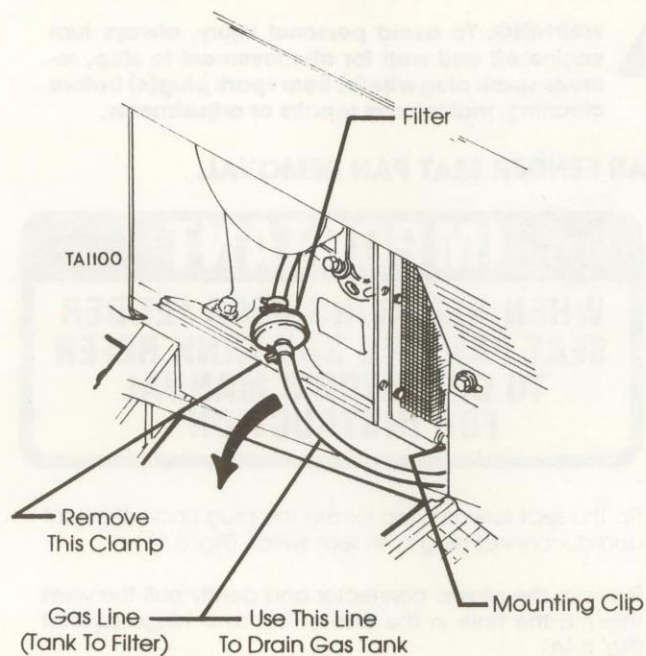

FIG. 5.2A
3. Remove clamp holding gas line (from gas tank) to filter at the engine (Fig. 5.2A).
4. Remove gas line from filter and drain into container (Fig. 5.2A).